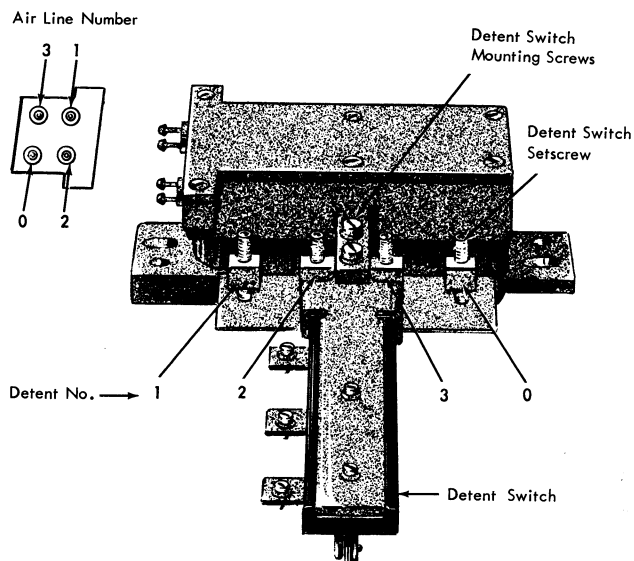

Figure 3-11. Track Detent Assembly
3. Apply air to any track detent piston and adjust corresponding setscrew until normally open contact is just made; then turn setscrew ½ turn clockwise (see Figure 3-11). Check with arm all the way in, at the center, and all the way out.